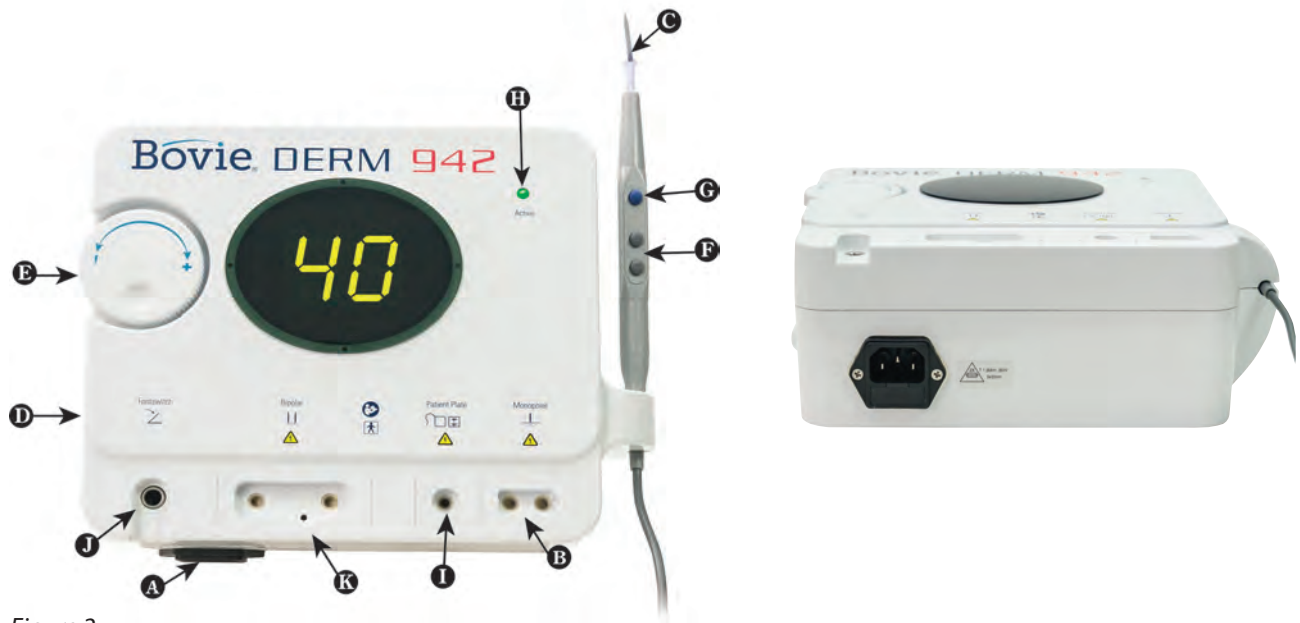

Figure 2
2. Plug the female end of the power cord into the base of the unit (see figures 2 and 3, letter A).
4. The monopolar output for the handpiece is on the lower right front of the unit (see figures 2 and 3, letter B). The handpiece plug is designed to fit in only one direction. Plug the connector from the handpiece into the receptacle on the bottom of the unit (see figures 2 and 3, letter B). The three button handpiece is designed to give the doctor complete fingertip control of the power output settings.
5. Slide the standard electrode into the handpiece until it is firmly seated (see figures 2 and 3, letter C). The handpiece will accept most standard  $\frac{3}{32}$ " electrodes.
7. Turn the unit power on utilizing the switch on the left side panel of the unit (see figures 2 and 3, letter D).
8. Set the power output either by using the dial on the front of the unit (see figures 2 and 3, letter E) or the up and down buttons on the handpiece (see figures 2 and 3, letter F). When power level adjustment is being made by the handpiece an audible tone will sound to indicate that the power level has been changed. Depressing and holding the up or down buttons will cause the power settings to change more rapidly for quick adjustment of the output settings. Power output is displayed in ".1" watt increments from 0.1 to 10 watts.
9. To activate the unit, remove the handpiece from the holder. Place the handpiece in the desired position and depress the activation button (see figures 2 and 3, letter G). When the unit is activated, an audible tone is sounded and the blue active light will illuminate (see figures 2 and 3, letter H).
plate output (see figures 2 and 3, letter I) and connect the other end into the grounding plate. The plate should be placed underneath the patient at a point where the entire plate is covered by bare skin. The use of conductive gel is recommended.
11. To use the optional bipolar cord (A827V), insert the plugs into the bipolar outputs (see figure 2, letter K). The cord is then plugged into the forceps. Only one monopolar or one bipolar accessory can be plugged in to the outputs preventing the user from using both accessories simultaneously.
12. The optional footswitch (A803) is plugged into the footswitch output and placed on the floor (see figures 2 and 3, letter J). The footswitch can be used with monopolar procedures and must be used with bipolar procedures.